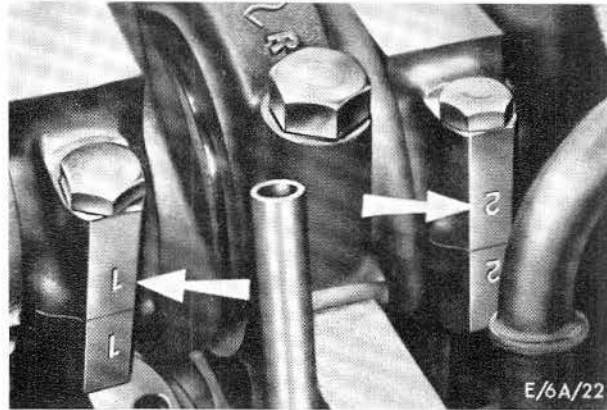

Fig. 32. Markings of big end and main bearing cap.
27. Check markings of big end and main bearing caps, Fig. 32, for subsequent reassembly.